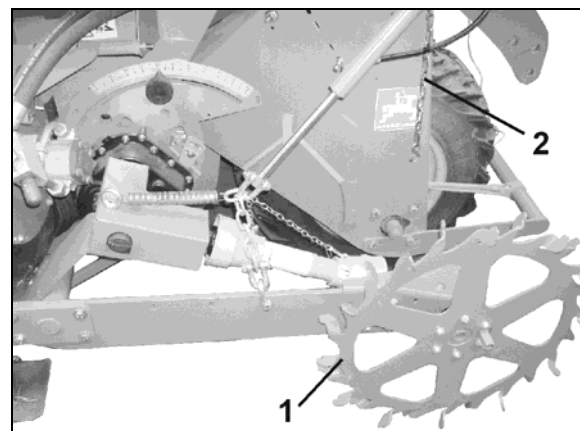

Fig. 65
4. Put the star wheel (Fig. 65/1) into transport position and secure it with the chain (Fig. 65/1).